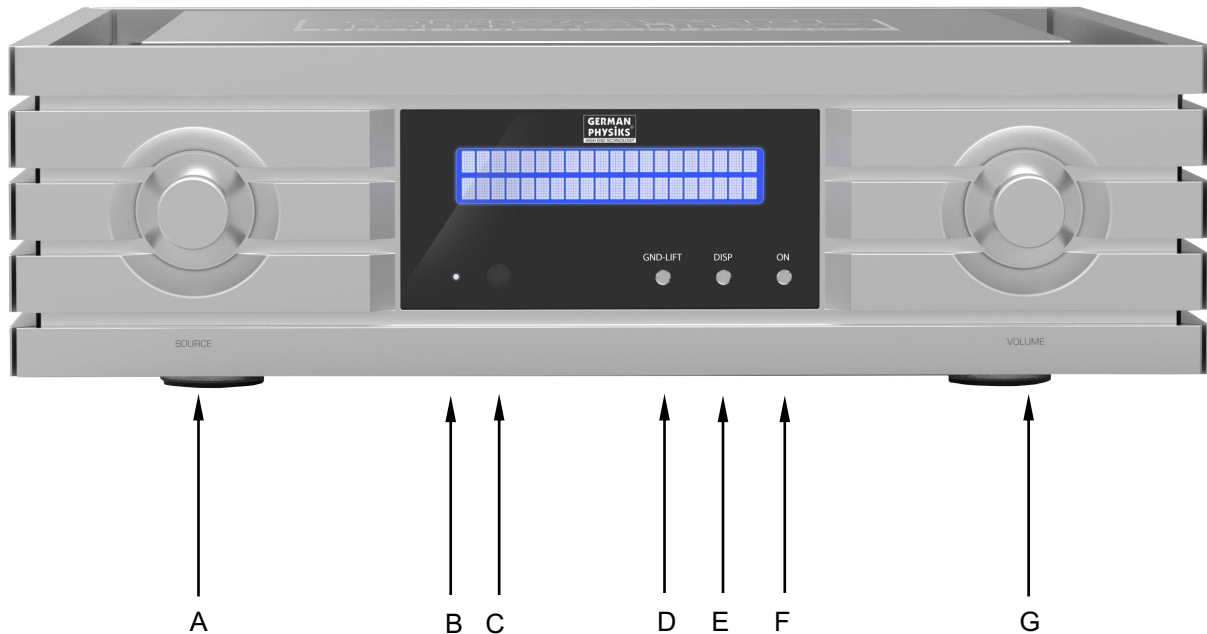
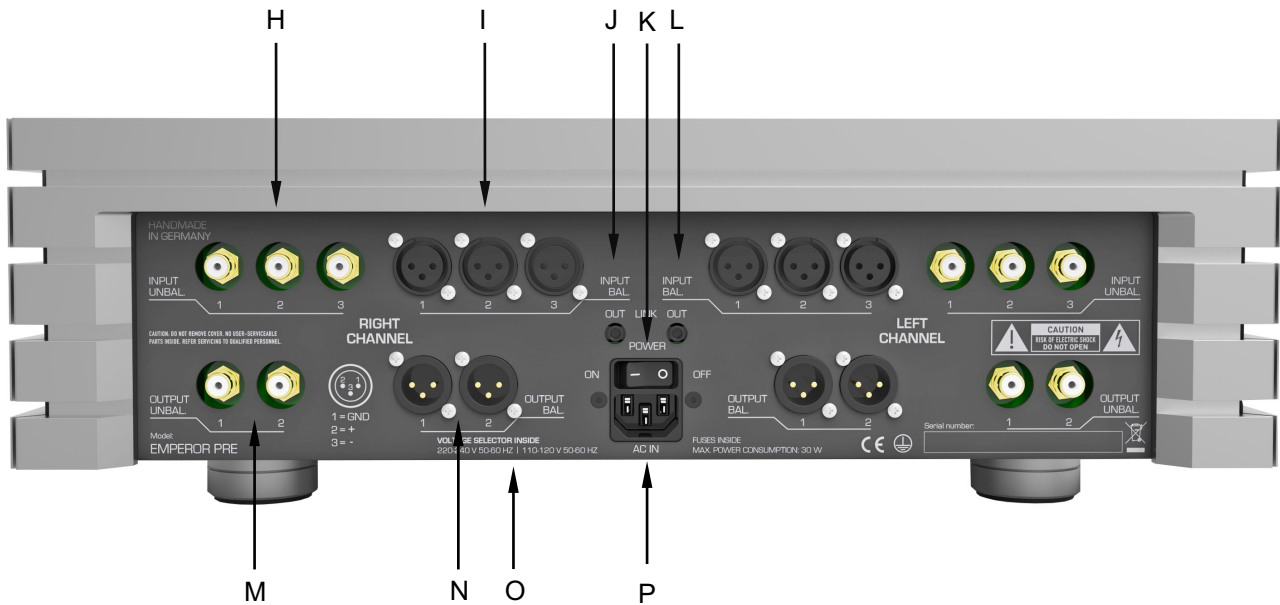

Figure 2. Emperor preamplifier front panel.
Figure 3. Emperor preamplifier rear panel.
K. Power switch: This is the main power switch. When installing the unit, this should be in the off position as shown in figure 3.
2. Connect right channel output of your main source to either, one of the preamplifier's right channel unbalanced inputs (figure 3, H), or one of its right channel balanced inputs (figure 3, I). Where possible, we recommend that you use the balanced inputs for your main sources, as this will usually produce superior results.
3. Connect the preamplifier right channel unbalanced output, figure 3, M, or right channel balanced output, figure 3, N, to the power amplifier right channel input. Where possible we recommend that a balanced connection is used as this will generally produce superior results.
5. Confirm that the preamplifier main power switch is set to the off position as shown in figure 3, K, then insert the power lead into the preamplifier's rear panel power inlet, figure 3, P, ensuring that it has been pushed fully home.
7. Switch on the power switch on the preamplifier's rear panel, figure 3, K. The front panel power indicator, figure 2, B, should now come on.
8. Switch the preamplifier on by pressing the front panel **On** button, figure 2, F. Allow 30 seconds for the amplifier to stabilise.
9. Rotate the **Volume** control, figure 2, G, anti-clockwise and set the volume to minimum.
10. Rotate the **Source** control, figure 2, A, to select the input connected to the source that you are going to use.
3. Connect the both of the preamplifier's right channel unbalanced outputs, figure 3, M, or right channel balanced outputs, figure 3, N, to the right channel power amplifier's inputs. Where possible we recommend that a balanced connection is used as this will generally produce superior results.
2. Connect a trigger cable to either of the preamplifier's **LINK OUT** sockets – figure 3, J or L.
7. If the preamplifier's front panel **ON** button is now pressed (figure 2, F), all the other connected units should come out of standby.